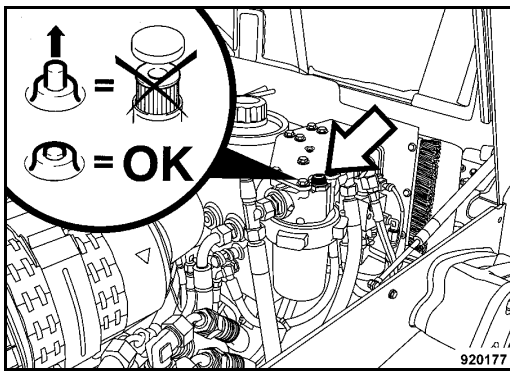

Fig. 123
- Check the service indicator 1 (Fig. 123) at operating temperature and with the engine running at maximum speed.